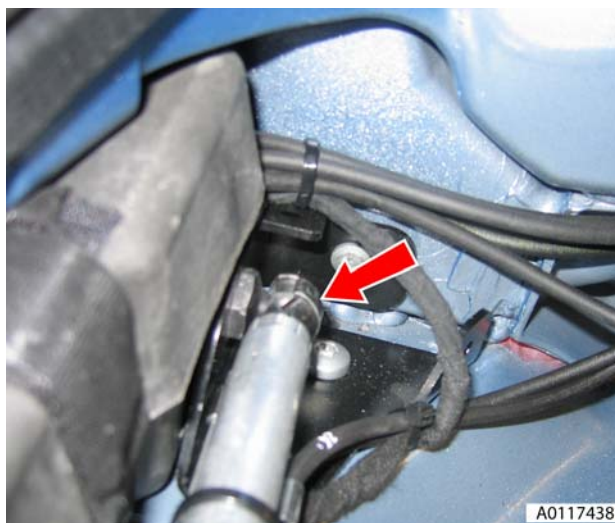

Figure 5
11. Release cylinder lower retaining clip and disconnect cylinder from body (see Figure 5).